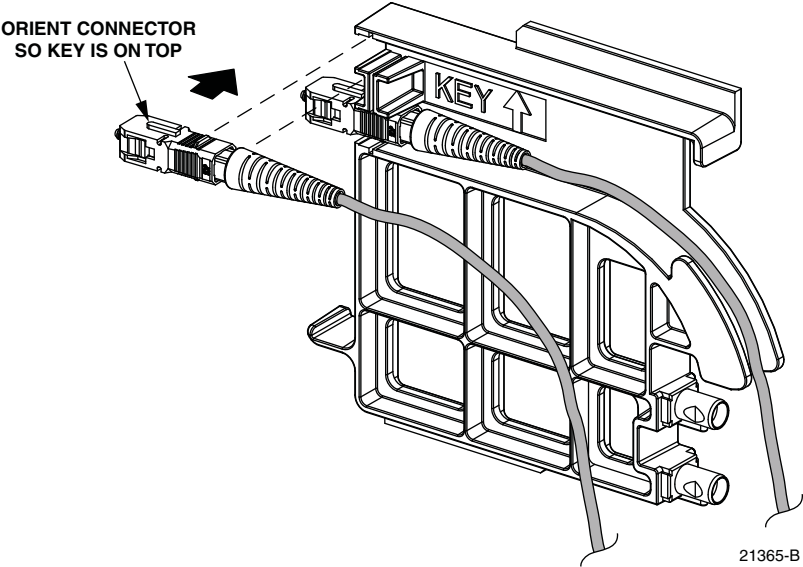

Figure 70. Installing Patch Cord Connector in Dust Cap Assembly
8. Install the patch cord connector in the dust cap assembly as shown in Figure 70.